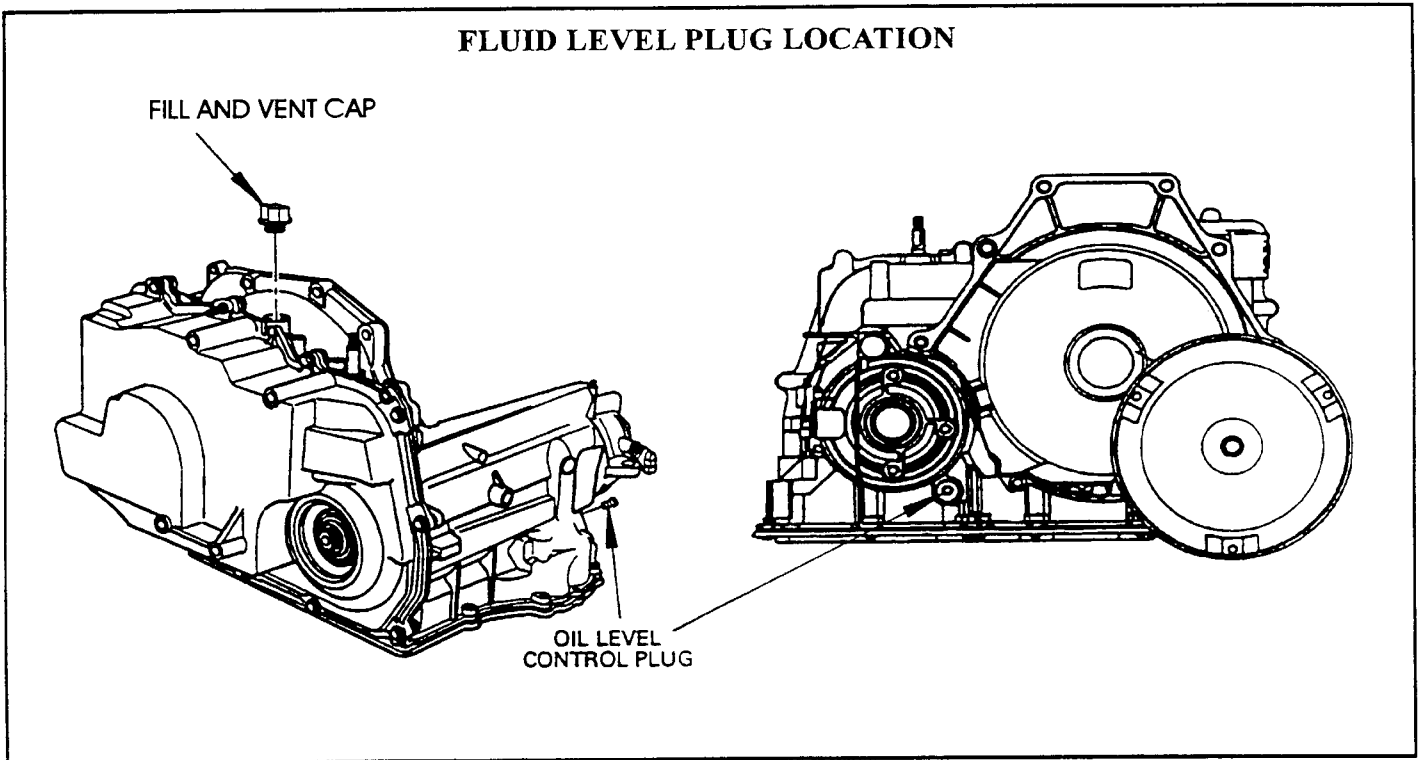

Figure 2
2. Place a fluid container below the fluid level plug which is an 1/8" pipe plug, located in the case near the final drive, as shown in Figure 2.
5. Remove the fluid level plug (1/8" pipe plug), as shown in Figure 2. Because the transaxle works correctly over a range of fluid levels, fluid may or may not drain out of the plug hole in the case when the plug is removed.
7. If fluid does not drain through the plug hole in case, the transaxle fluid may be low. Add fluid through the fill cap located on top of the transaxle as shown in Figure 2. Add fluid in 1/2 Qt. increments, up to 1.5 quarts maximum, until the fluid drains through the plug hole. If the fluid drains through the plug hole the fluid level was in the correct operating range. Allow the fluid to finish draining through the plug hole and install the plug and torque to 12 N.m (10 ft.lb.). If fluid does not drain through the plug hole in case after adding a total of 1.5 quarts, then the transaxle was either underfilled or is leaking. The transaxle should be inspected for fluid leaks and any leaks should be corrected before setting the transaxle fluid level.
3. Add additional fluid through the fill cap in 1 pint increments until fluid comes out the plug hole in case by the final drive (See Figure 2).